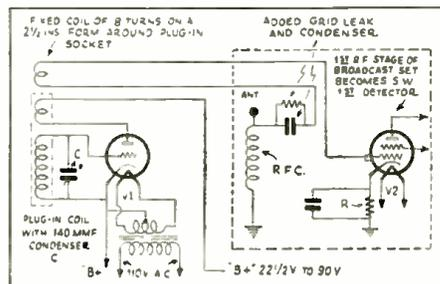

Fig. 4
**A**S MY sketch, Fig. 4, shows, very little needs to be done to any set with an untuned screen-grid first stage, to convert it into an S.W. superheterodyne. It will, perhaps, be a little harder, if the first stage is a 27.